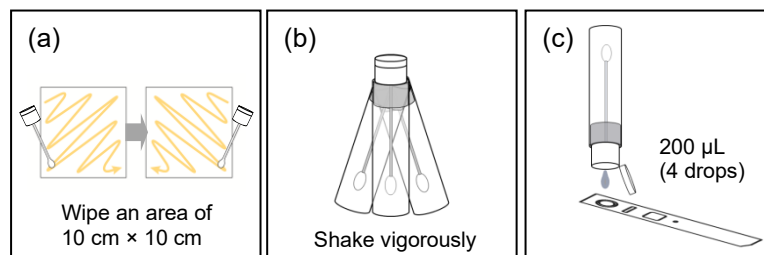

Fig. 2. Test steps for swab test sample
- Thoroughly wipe across (zigzagging) the specified surface area of 10 cm × 10 cm with the swab 1st pass in diagonal, and a 2nd pass in diagonal perpendicular to the 1st pass (Fig. 2 (a)).
- Place the swab into the bottle, cap tightly and shake it vigorously, not in a vertical direction. The resulting swab solution is referred to as **Test Solution** (Fig. 2 (b)).
- Place the **Test Stick** horizontally. Open the lid and invert the **Swab Kit**. Apply 200 µL (4 drops) of the **Test Solution** to the sample application slot by squeezing (Fig. 2 (c)).